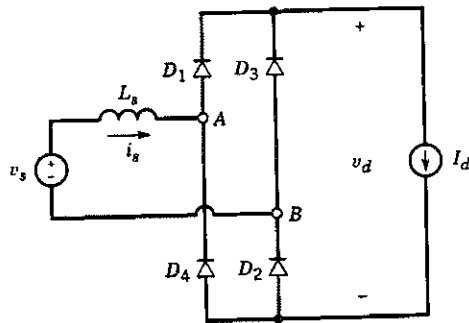

Figure 3.
5. In a single phase rectifier circuit shown in Figure 3. $V_s=150V$ at $60Hz$, $L_s= 5mH$, and $I_d=15A$. Calculate μ (commutation interval) , V_d and P_d . What is the percentage voltage drop in V_d due to L_s .